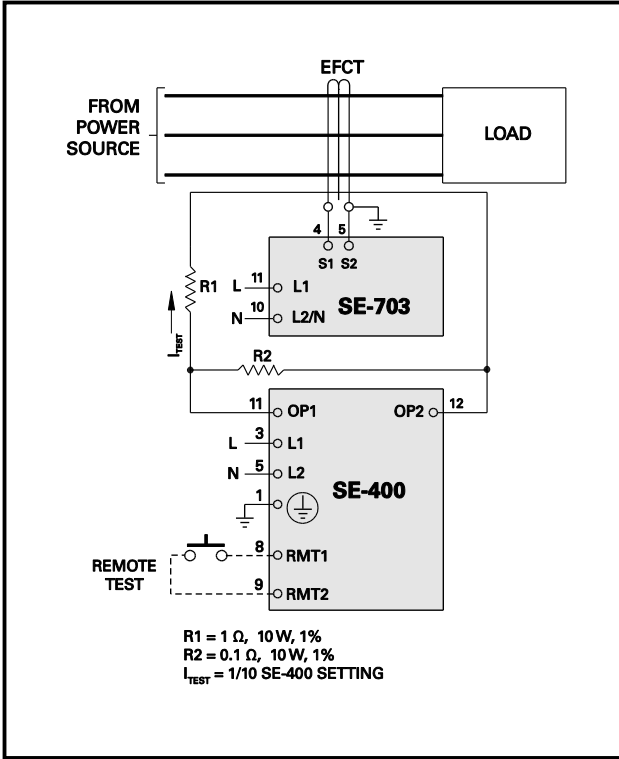

FIGURE 11. Earth-Fault-Test Circuit.
- d) Verify proper reaction of the circuit-interrupting device in response to a simulated or controlled earth-fault current. To simulate earth-fault current, use CT-primary current injection. Fig. 11 shows a test circuit using an SE-400 Ground-Fault-Relay Test Unit. The SE-400 has a programmable output of 0.5 to 9.9 A for a duration of 0.1 to 9.9 seconds.
Fig. 11 shows the use of resistors that reduce the injected current to 10% of the SE-400 setting. Set the test current to 120% of the SE-703 setting. Inject the test current through the current-sensor window for at least 2.5 seconds. Verify that the circuit under test has reacted properly. Correct any problems and re-test until the proper reaction is verified.
Added Fig. 11.